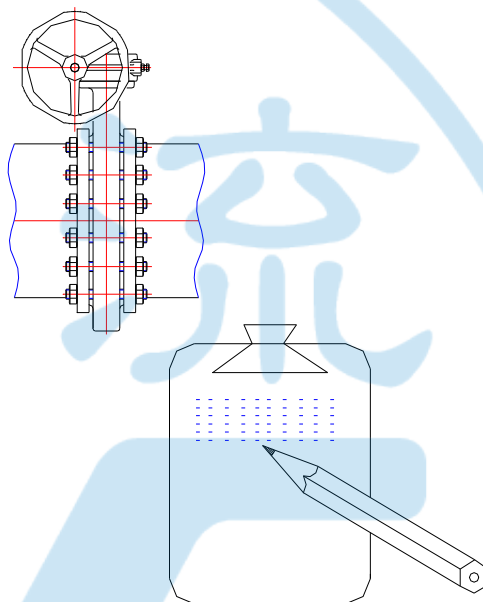

Fig.31
- 17.3.5 If there are any problems could not be eliminated during service , Please contact Value Valves Co., Ltd. and describe damage condition then we could serve you as soon as we could. (Fig.31)